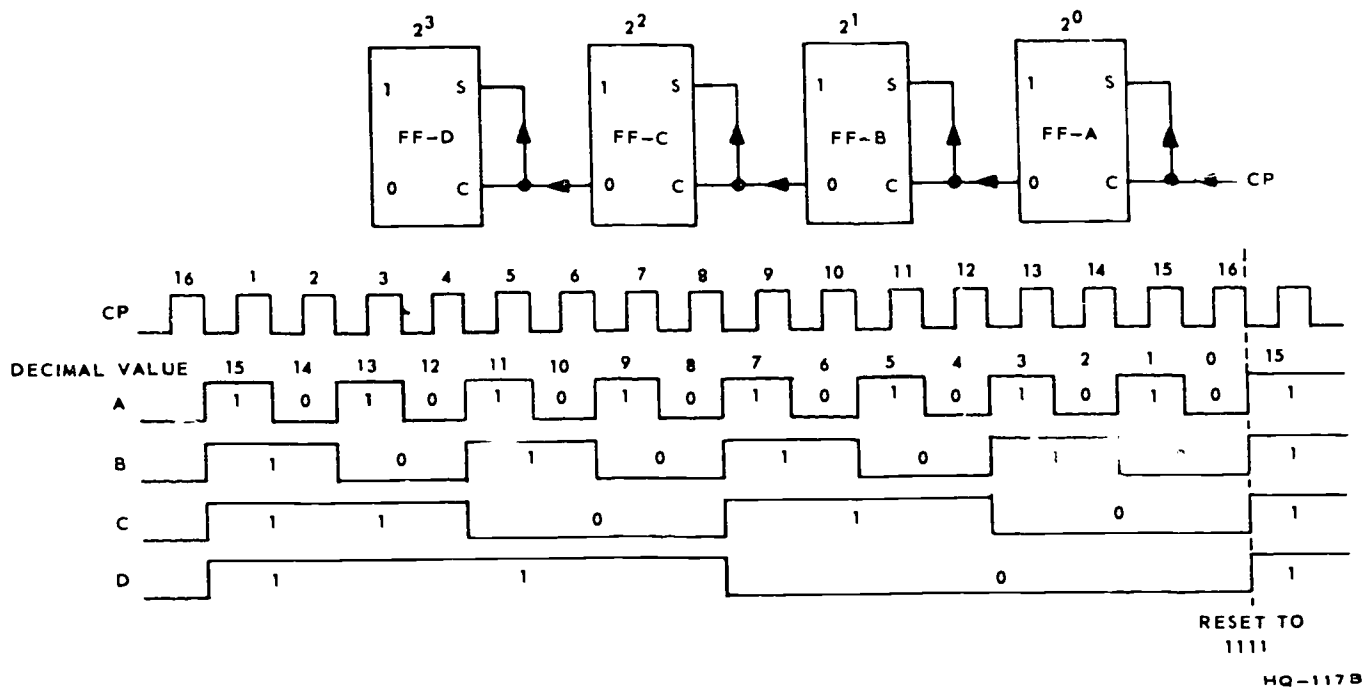

Figure 1-17. Serial-down counter.
Serial-down counter. The serial-up counter (fig. 1-16) can be easily converted to the serial-down counter (fig. 1-17). The only difference is that the up-counter stages feed the ONE-side outputs of the flip-flops to succeeding stages, whereas the down-counter feeds the ZERO-side outputs of flip-flops to succeeding stages. Compare also the decimal equivalents of the counts. The up-counter starts at 0, counts to 15, and resets to 0; the down-counter starts at 15, counts down to 0, and resets to 15.
The same facts that we established for the up-counter are true for the down-counter. With these facts in mind, refer to figure 1-17 and follow through the counting cycle. Assume that the 16th pulse from the preceding counter cycle has set all flip-flops in the counter to the ONE state; therefore, the counter holds the binary configuration 1 1 1 1, which is equal to decimal 15. Circuit action is described in the following paragraphs.
- Refer to figure 1-17. When will FF-B go to the ZERO state?